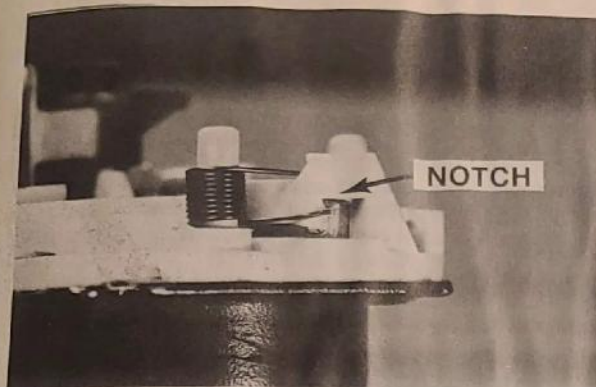

Fig. 27. Brush Springs
2. Release tension of brush springs by hooking ends into notches provided (fig. 27). Push brushes fully into housings.